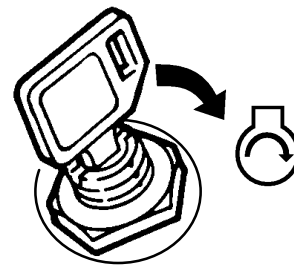

Figure 15
A. ELECTRIC STARTING (Model 10547)—Turn key clockwise to START  position (Fig. 15).